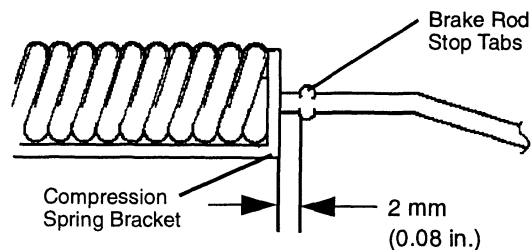

FIG. 41
- Refer to Figure 41. Measure distance from inside of brake rod stop tabs to outside of compression spring bracket (located below foot tread area on L.H. side of transmission). Distance should be **2 – 10 mm (0.08 – 0.40 in.)**.